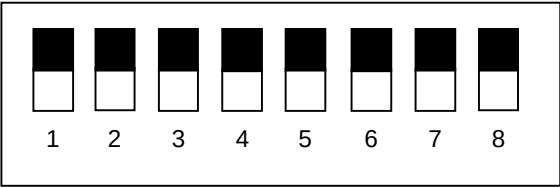

Figure 6.10.2 DIP switches (Being set for Standard setting)
- (2) Perform as the procedure shown below.
(3) Set the DIP switch No.4 as shown in Figure 6.10.2.